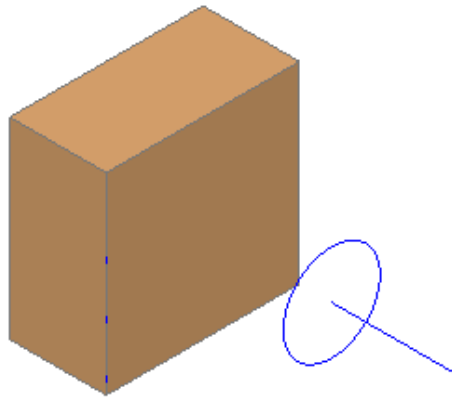

Figure Step 19
Step 19 Enter the LOFT command, as shown below, and select the two squares for the cross sections. (Figure Step 19)